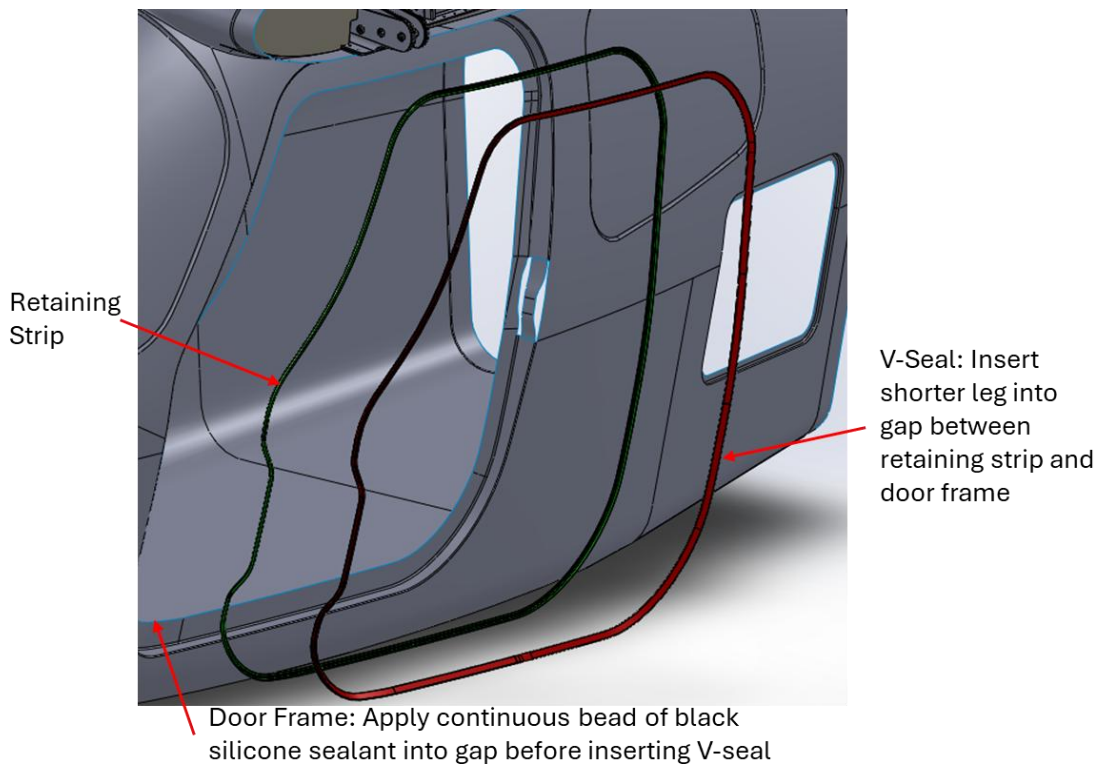

Figure 8: Cabin Door Seal and Retaining ring Assembly
1. Refer to Figure 8 for V-seal placement and orientation.